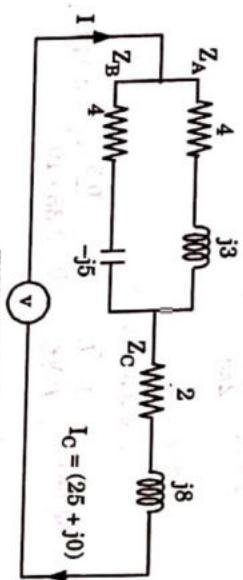

FIG. 2.36.1
1. The circuit is shown in Fig. 2.36.1.